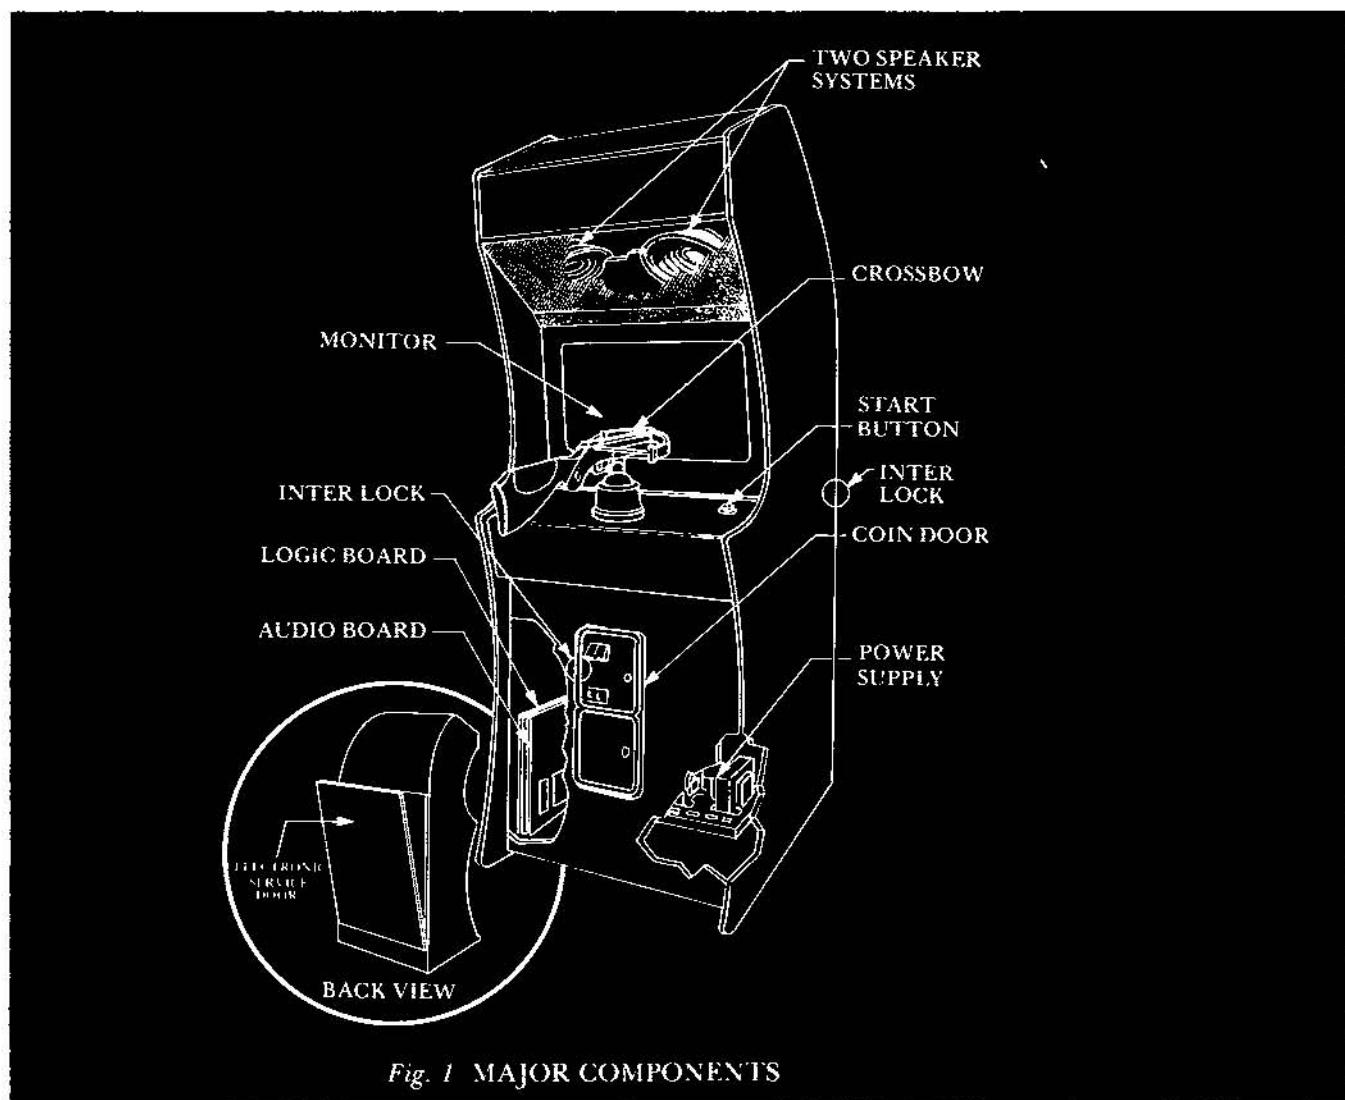
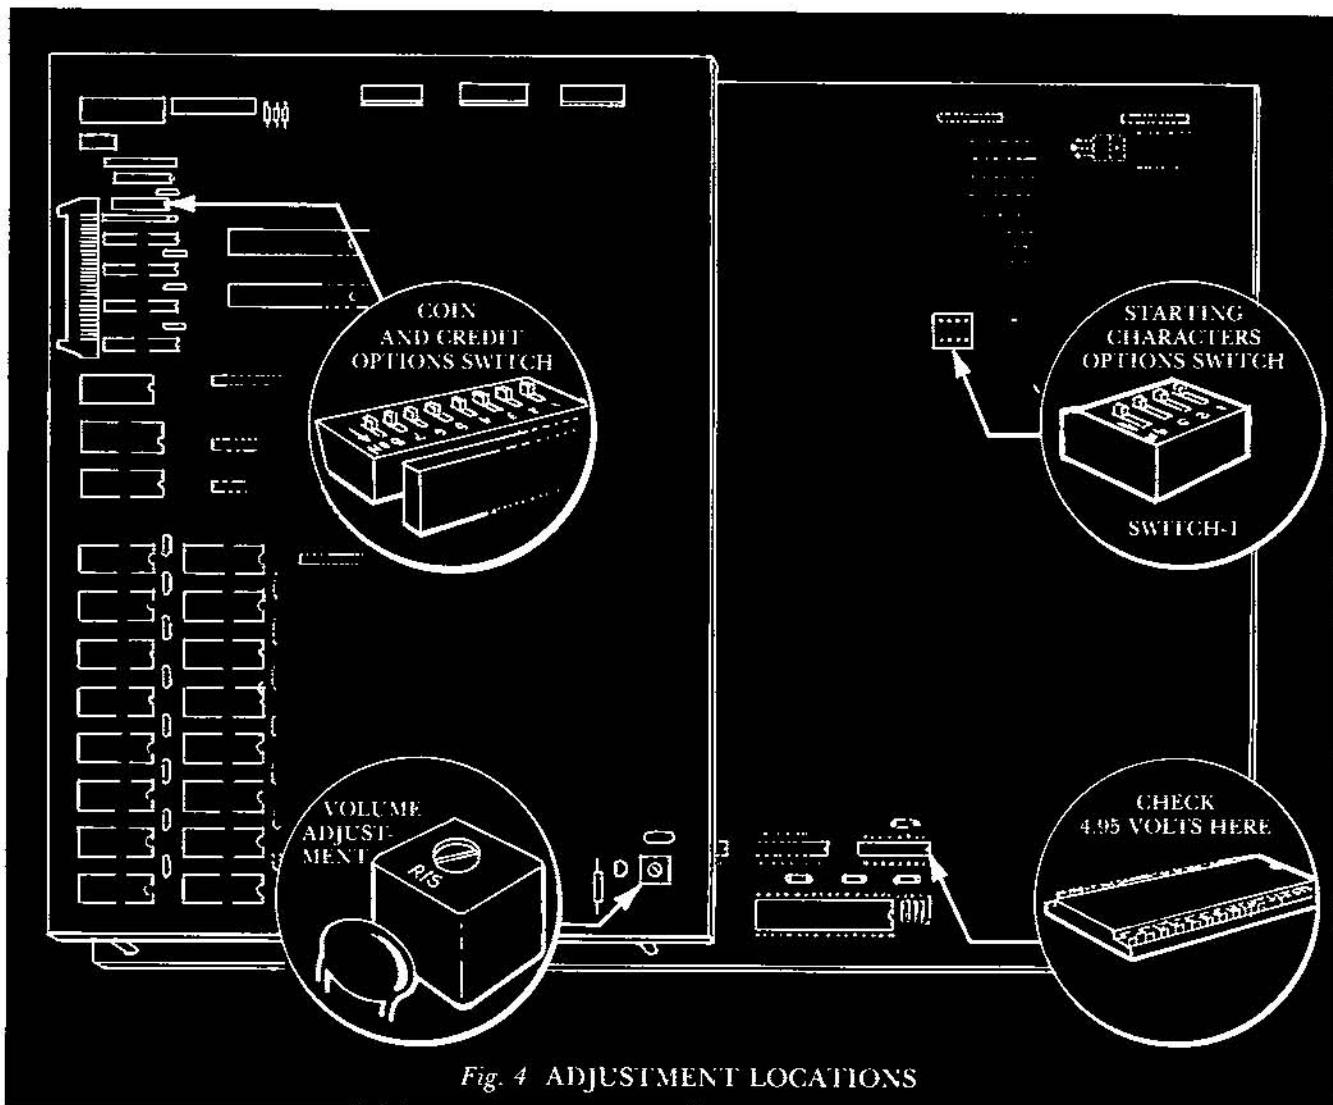

Fig. 1 MAJOR COMPONENTS
Fig. 4 ADJUSTMENT LOCATIONS
The major components of your Crossbow game are illustrated in (See Fig. 1). These major components are the following:
*CAUTION: Only certified technicians should make adjustments on all components of Crossbow™. Only the +5v DC is adjustable. This must be adjusted to: +4.95 VDC as measured on the PCB near the microprocessor (location J2) (See Fig. 4).*
Adjust R15 master audio volume control located at position T2 on the Audio Logic Board (See Fig. 4) and adjust audio level while game is in progress. This audio board rides piggyback on the logic board, mounted inside of the cabinet on the side wall (See Fig. 1).
1. Open the Coin Door to access the AG interlock switch, game will power down (See Fig. 1).